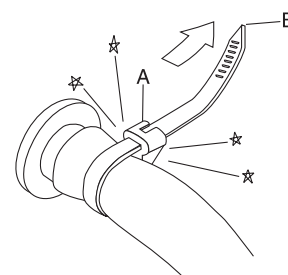

Fig. 5-6
④-3 While holding the tube band by the part A, pull the tip (B) of the tube band to tighten it (See Fig. 5-6).